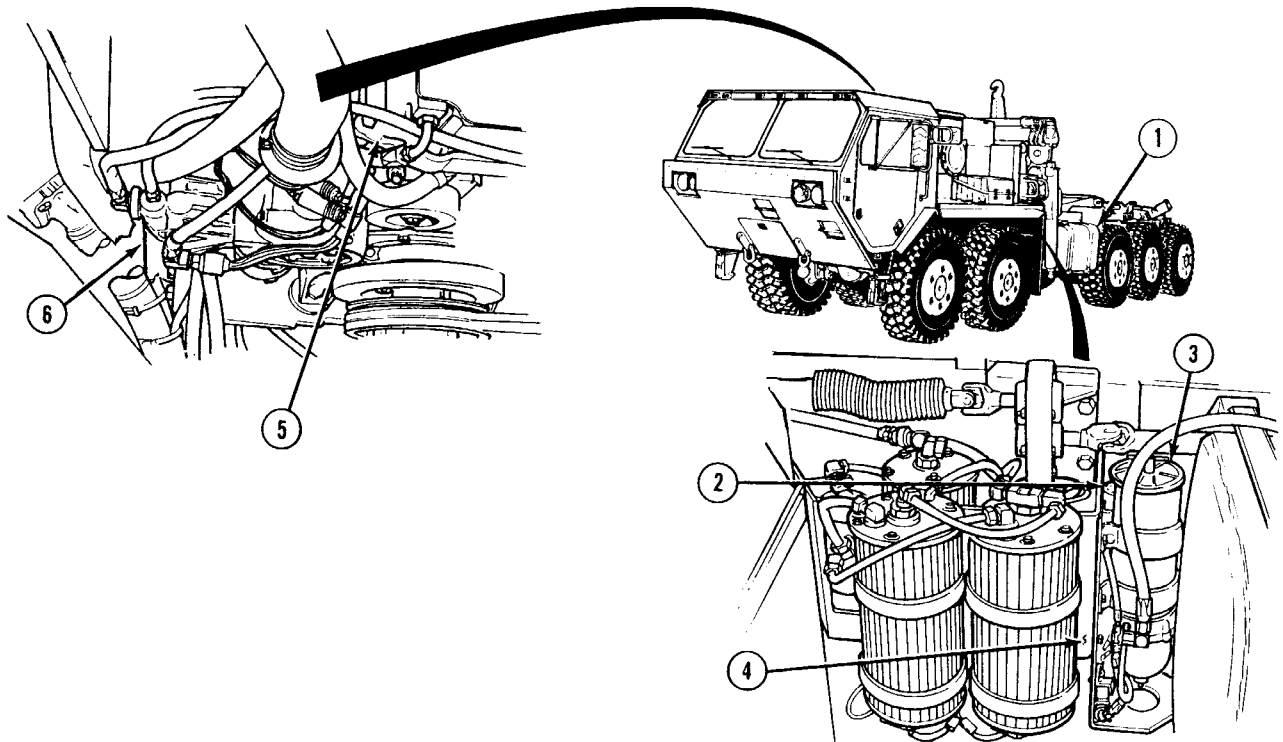

Figure 1-8. Fuel System
c. Fuel System. In the fuel system (Figure 1-8), fuel is drawn from the fuel tank (1) and passes through the electrical priming fuel pump (2) and the fuel/water separator (3). A fuel shut-off valve (4) controls the flow of fuel to the engine. A mechanical fuel pump (5) draws fuel through the secondary fuel filter (6) to the engine. Surplus fuel from the injectors is returned to the fuel tank through a return line. The fuel/water separator removes water and large solid particles from the fuel. The finer particles are removed by the secondary filter before they can enter the fuel injectors.